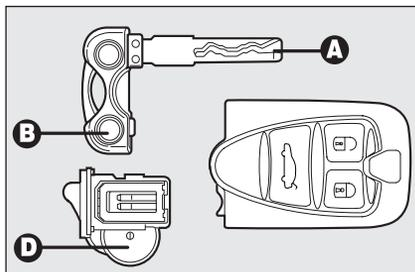

fig. 10
To change the battery **fig. 10** proceed as follows:
- remove the battery **D-fig. 10** from the case taking note of the bias (in the figure the positive pole is facing downwards);